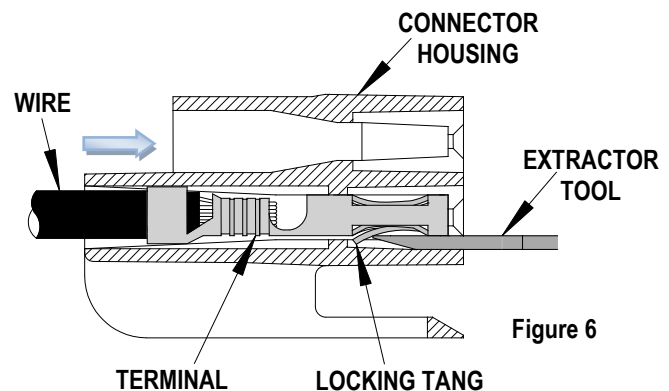

Figure 6
1. Push the terminal forward in the arrow direction before using the Extractor Tool as shown in Figure 6. Insert the Extractor Tool into the slot on the side of the connector housing.
See Figure 6.